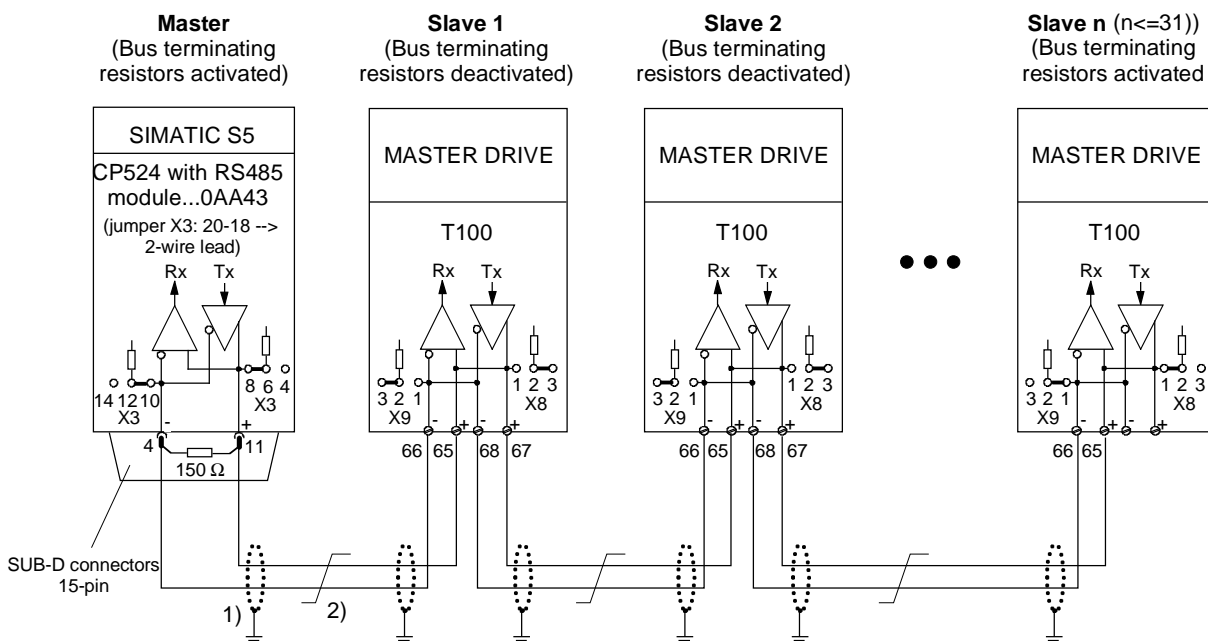

Fig. 3.5: Wiring example for a USS bus
The maximum length of the bus cable is 1000 m in total, but only 500 m for a baud rate of 187500. The cable must be terminated with terminating resistors (see Fig. 3.5) on the two nodes which are situated at the beginning and end of the bus. These resistors can be activated by resetting plug-in jumpers X8 and X9 to setting 1-2 on the T100. The bus terminating resistors must be deactivated on all nodes situated between the "terminals". Tap lines may not be inserted in the USS bus circuit. Document /6/ listed in the documentation index in Chapter 11 provides further information about the bus circuit arrangement and instructions on how to achieve noise-proof interface wiring.
- Communications processor CP524 (for wiring example, see Fig. 3.5)